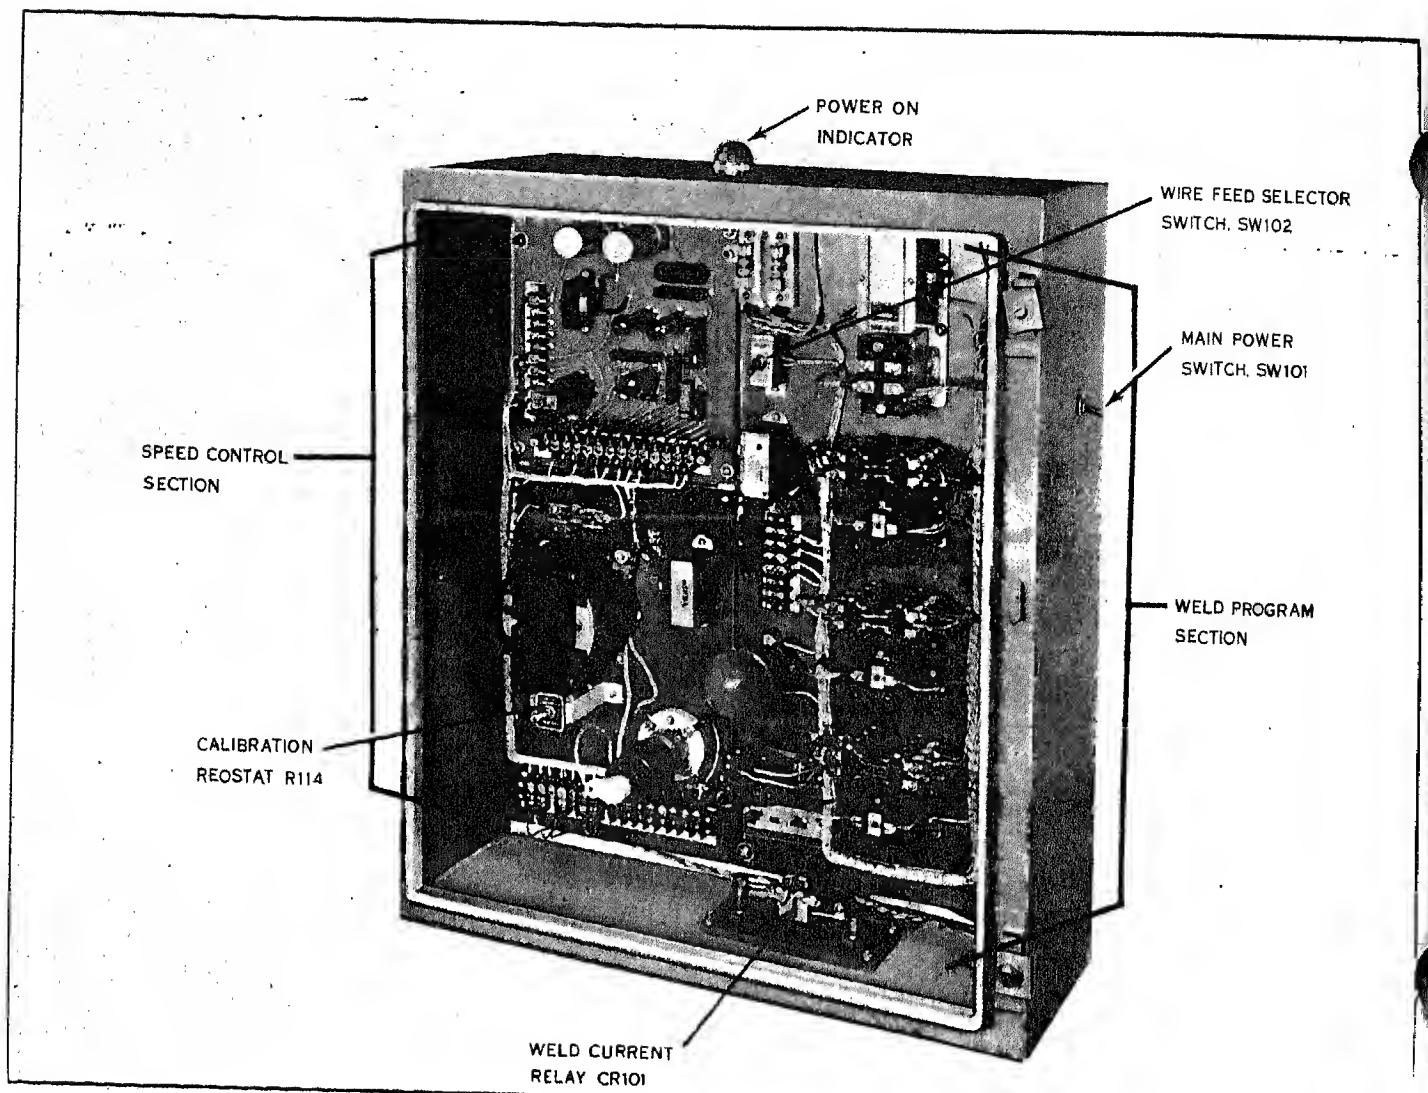
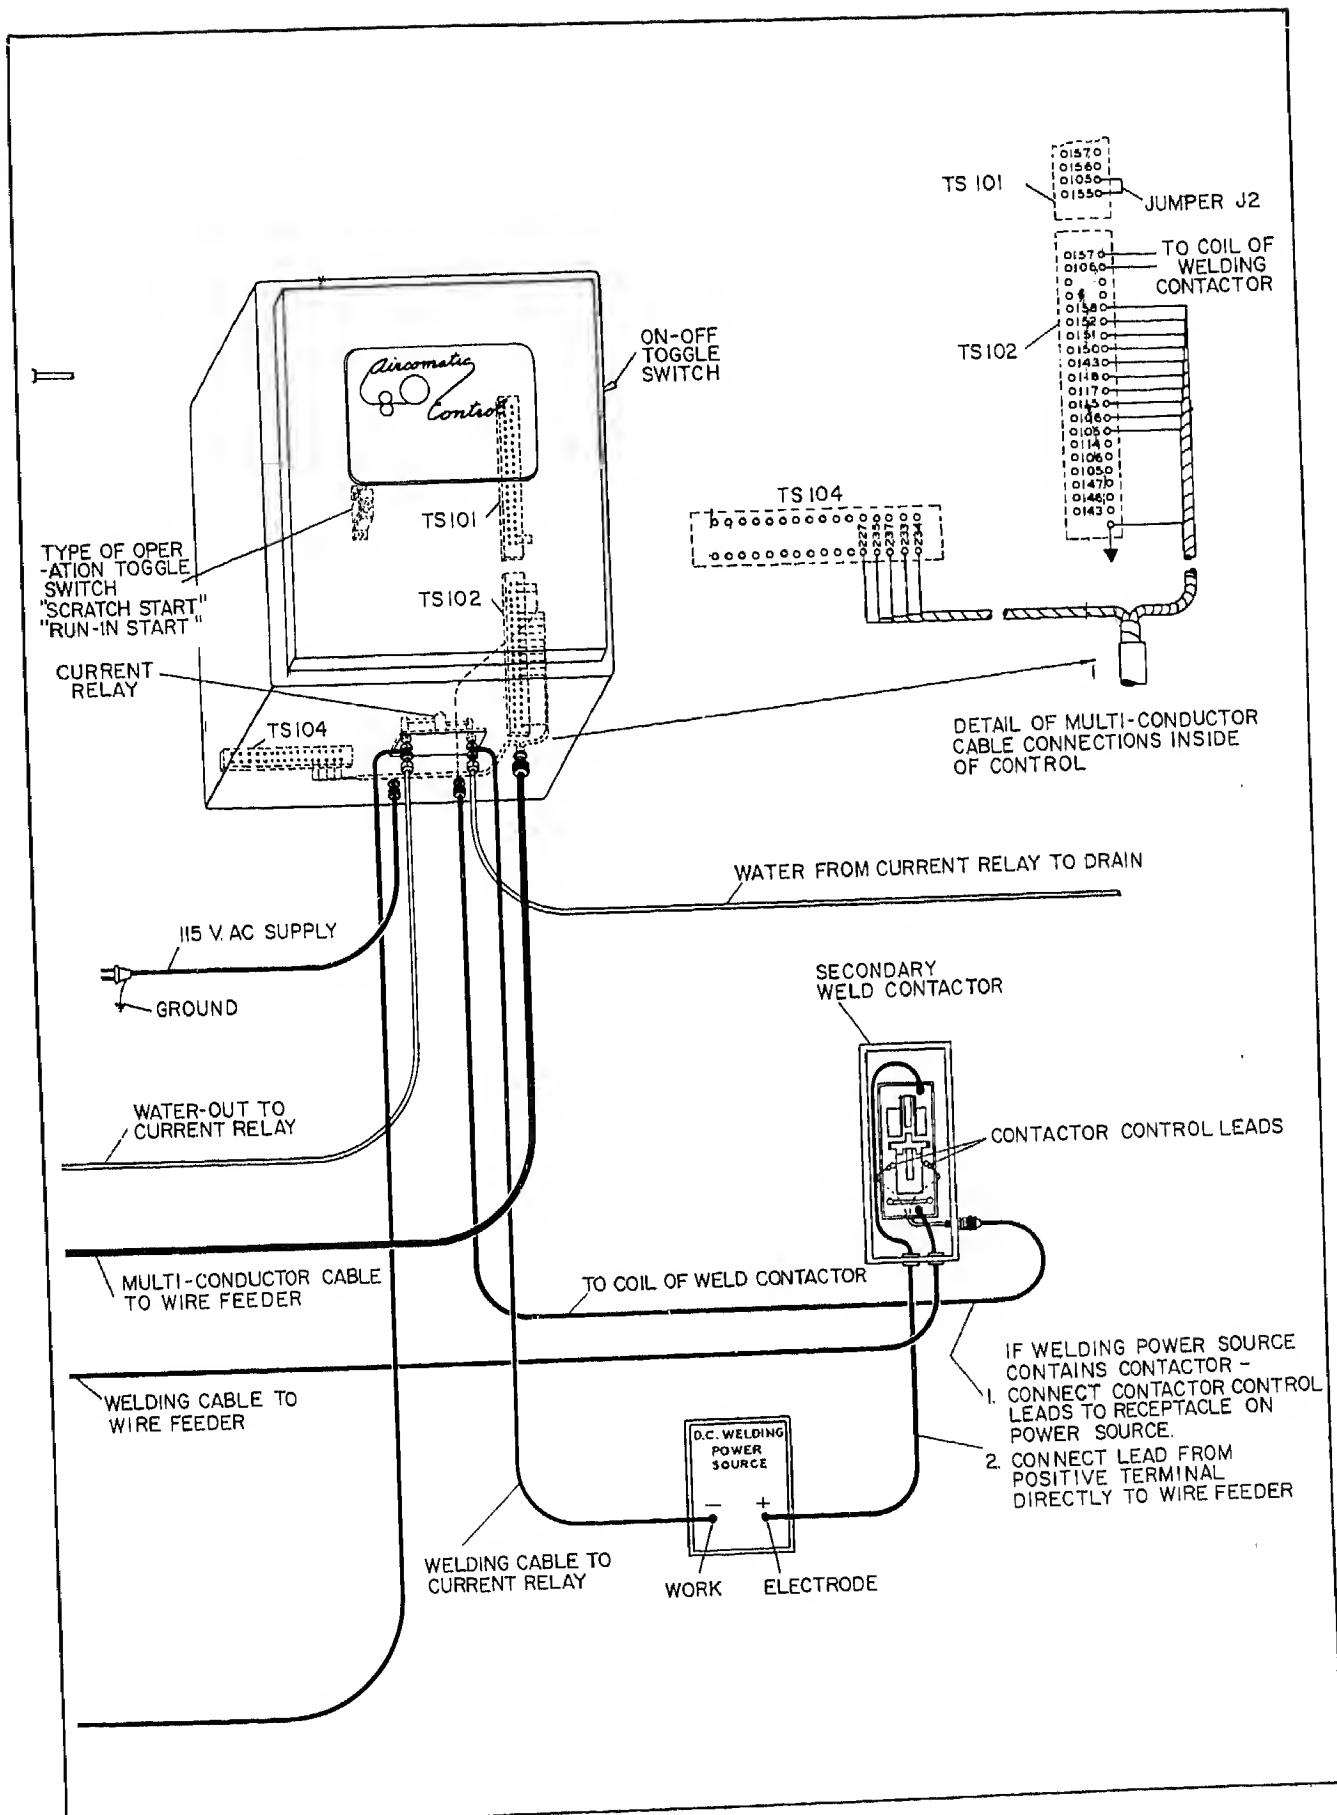

Fig. 4 Model AHC-B Control (Inside View)
Fig. 5 Interconnection Diagram
After making sure that the main power switch (Fig. 4) is OFF, connect Control in accordance with interconnection diagram (Fig. 5) as follows:
- Turn main power switch (Fig. 4) OFF.
- a. Turn main power switch (SW101) (Fig. 4) OFF.
To shut down Control, turn power switch (Fig. 4) OFF.